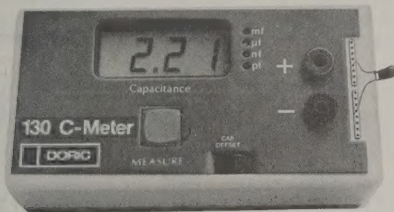

FIGURE 2-1. INSERTING CAPACITOR LEADS INTO CONNECTOR STRIPS
- a. The built-in connector strips on the right hand edge of the front panel accept capacitor leads up to #20 gage. Leads are inserted as shown in Figure 2-1; one lead in the upper strip and one lead in the lower strip. Components with leads as short as 0.1 inch may be used on these connector strips.